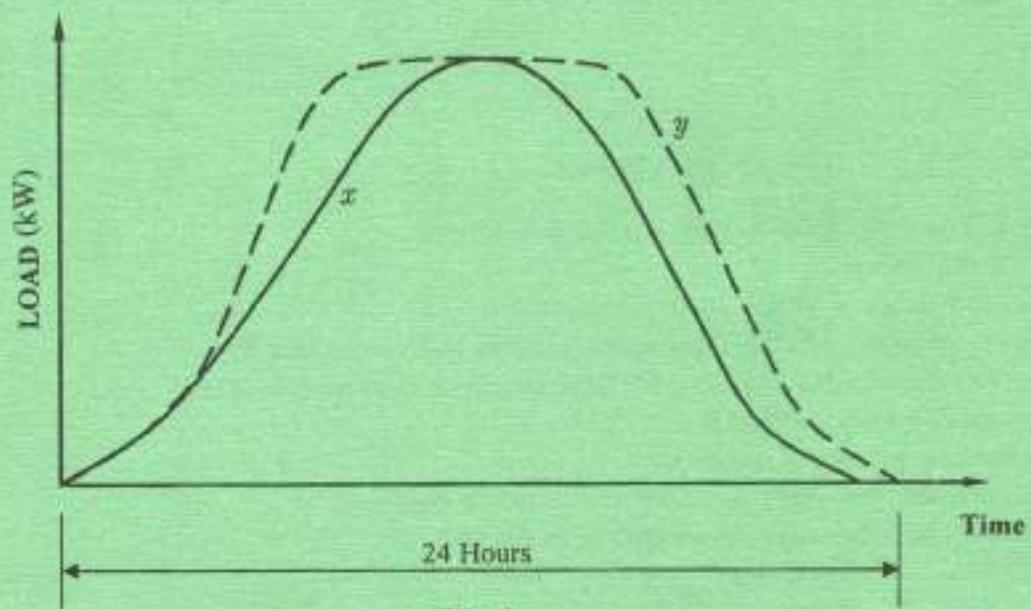

Fig. 1
- (ii) Figure 1 shows load curves for consumers x and y . With reason, state between the two consumers who has a better load factor. (12 marks)